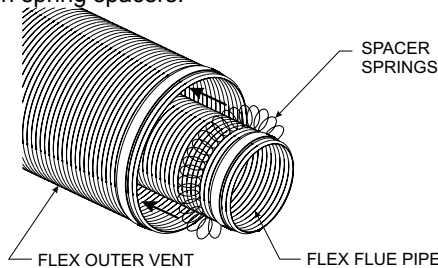
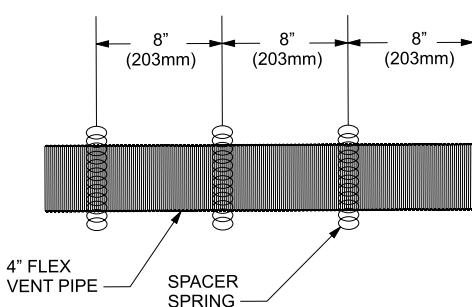

Figure 59
Figure 60
2. Check to see that the vent spacer springs are located around the flue vent at 8" and 12" intervals along its length. **See Figure 59.** If not, stretch the spacer springs to about 15" long and wrap them around the flue, then interlock the ends of each spring about 2". **See Figure 60.** Maintain equal distance between spring spacers.